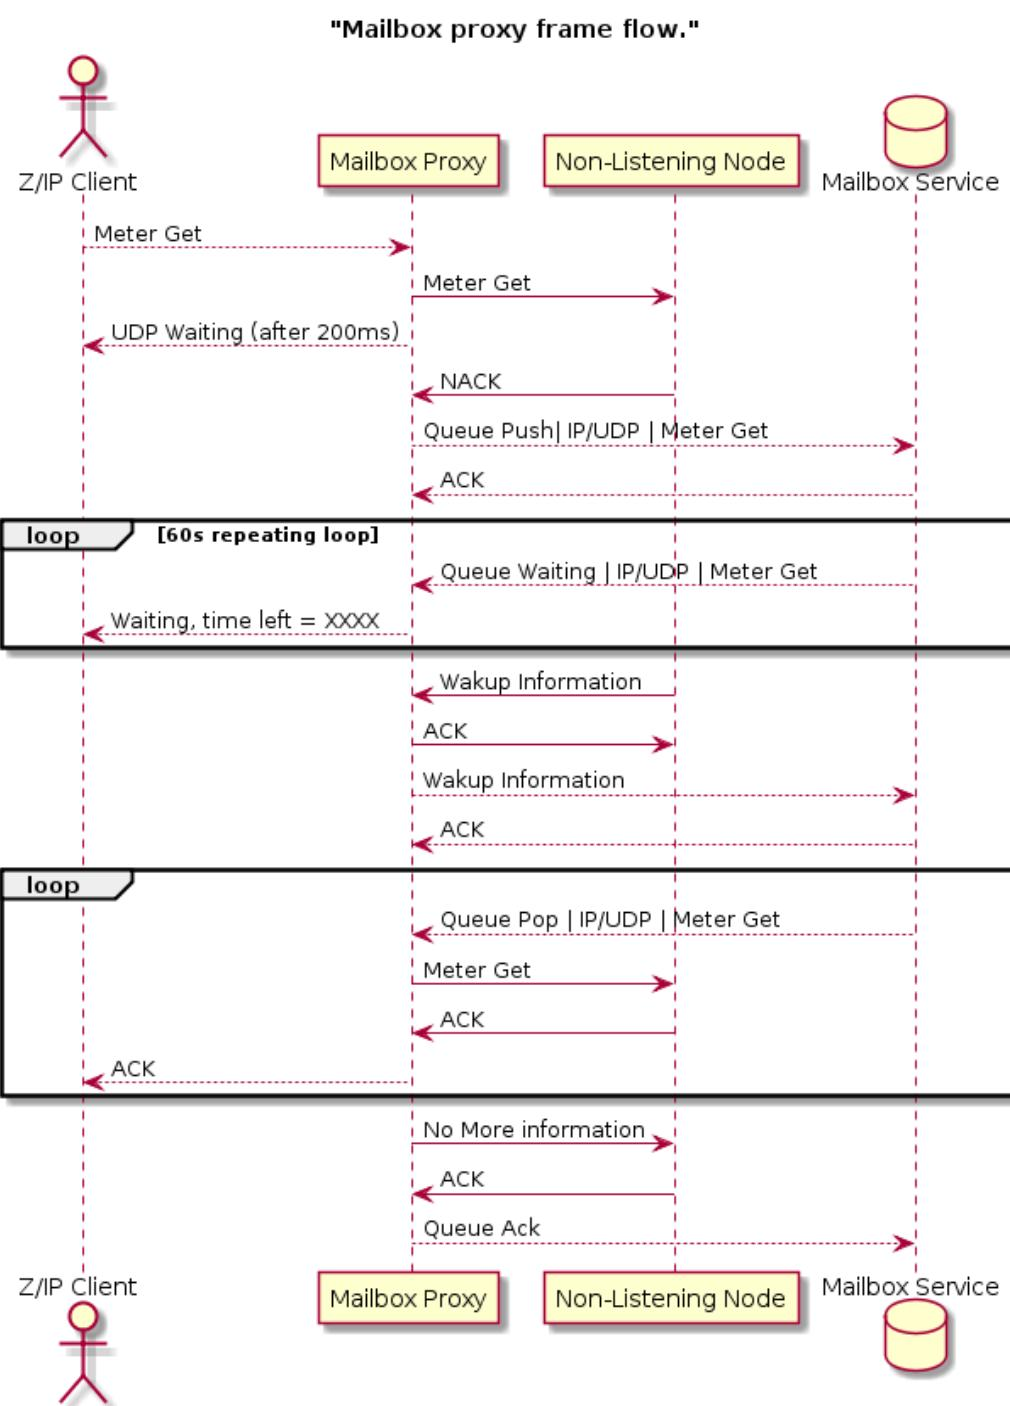

Figure 28, Mailbox Frameflow
Figure 28 illustrates the communication between a Z/IP Client (1) attempting communication to a non-listening node (4). The communication is passing through the Mailbox Proxy (2) which initially will attempt direct communication with (4). If failing to reach (4), the frame will be forwarded to the Mailbox Service (3) using the Mailbox Queue Command with Push Operation.